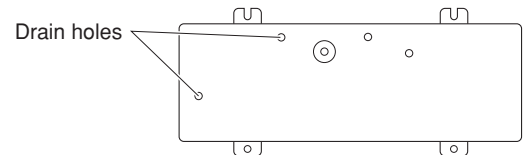

Fig. 5b
- provide a solid base (level concrete pad, concrete block, 4" × 1'4" (10 × 40 cm) beams or equal), a minimum of 4" (10 cm) above ground level to reduce humidity and protect the unit against possible water damage and decreased service life. (Figs. 5b and 5c)